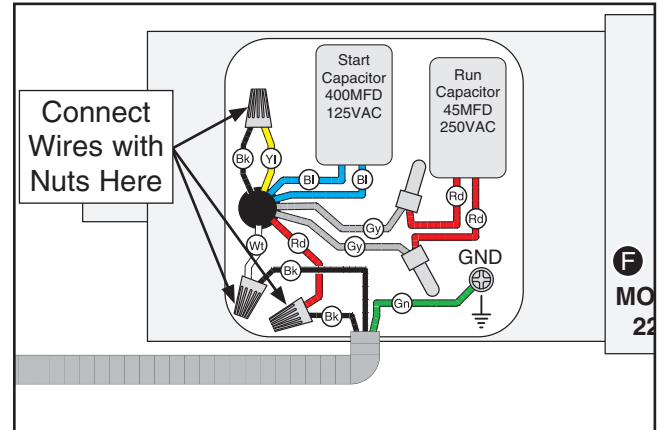

Figure 9. Model G0806 motor rewired to 220V.
4. Use wire nuts to connect wires, as indicated in **Figure 9**. Twist all three wire nuts onto their respective wires and wrap them with electrical tape so they will not come loose.